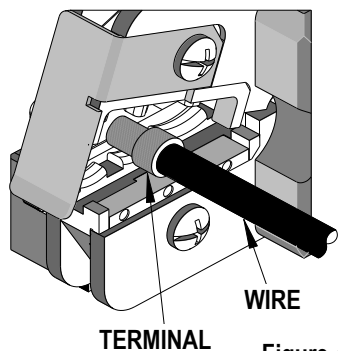

Figure 4
5. Push on the wire to assure it is still fully seated in the terminal. Cycle the tool. See Figure 4.